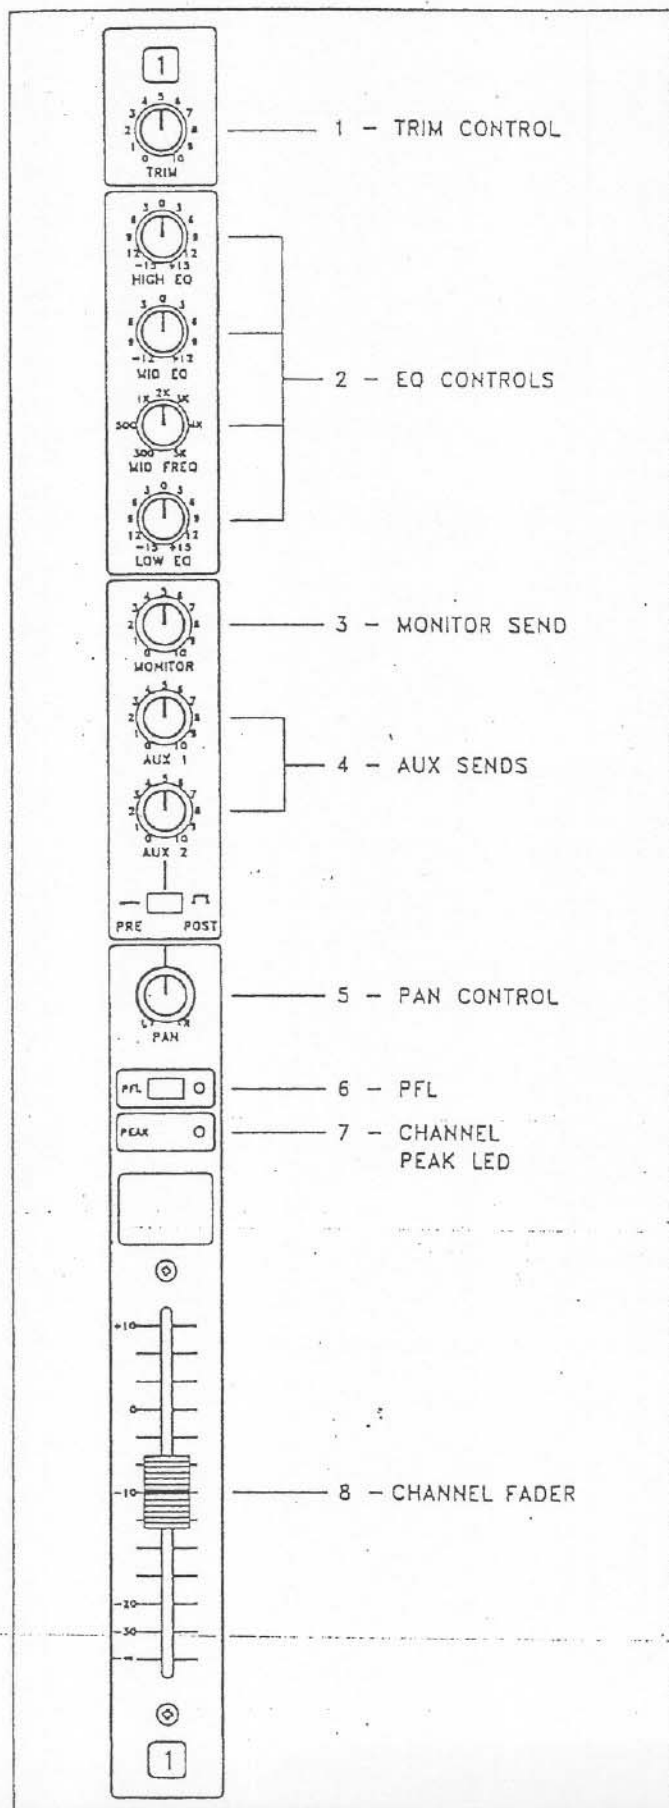
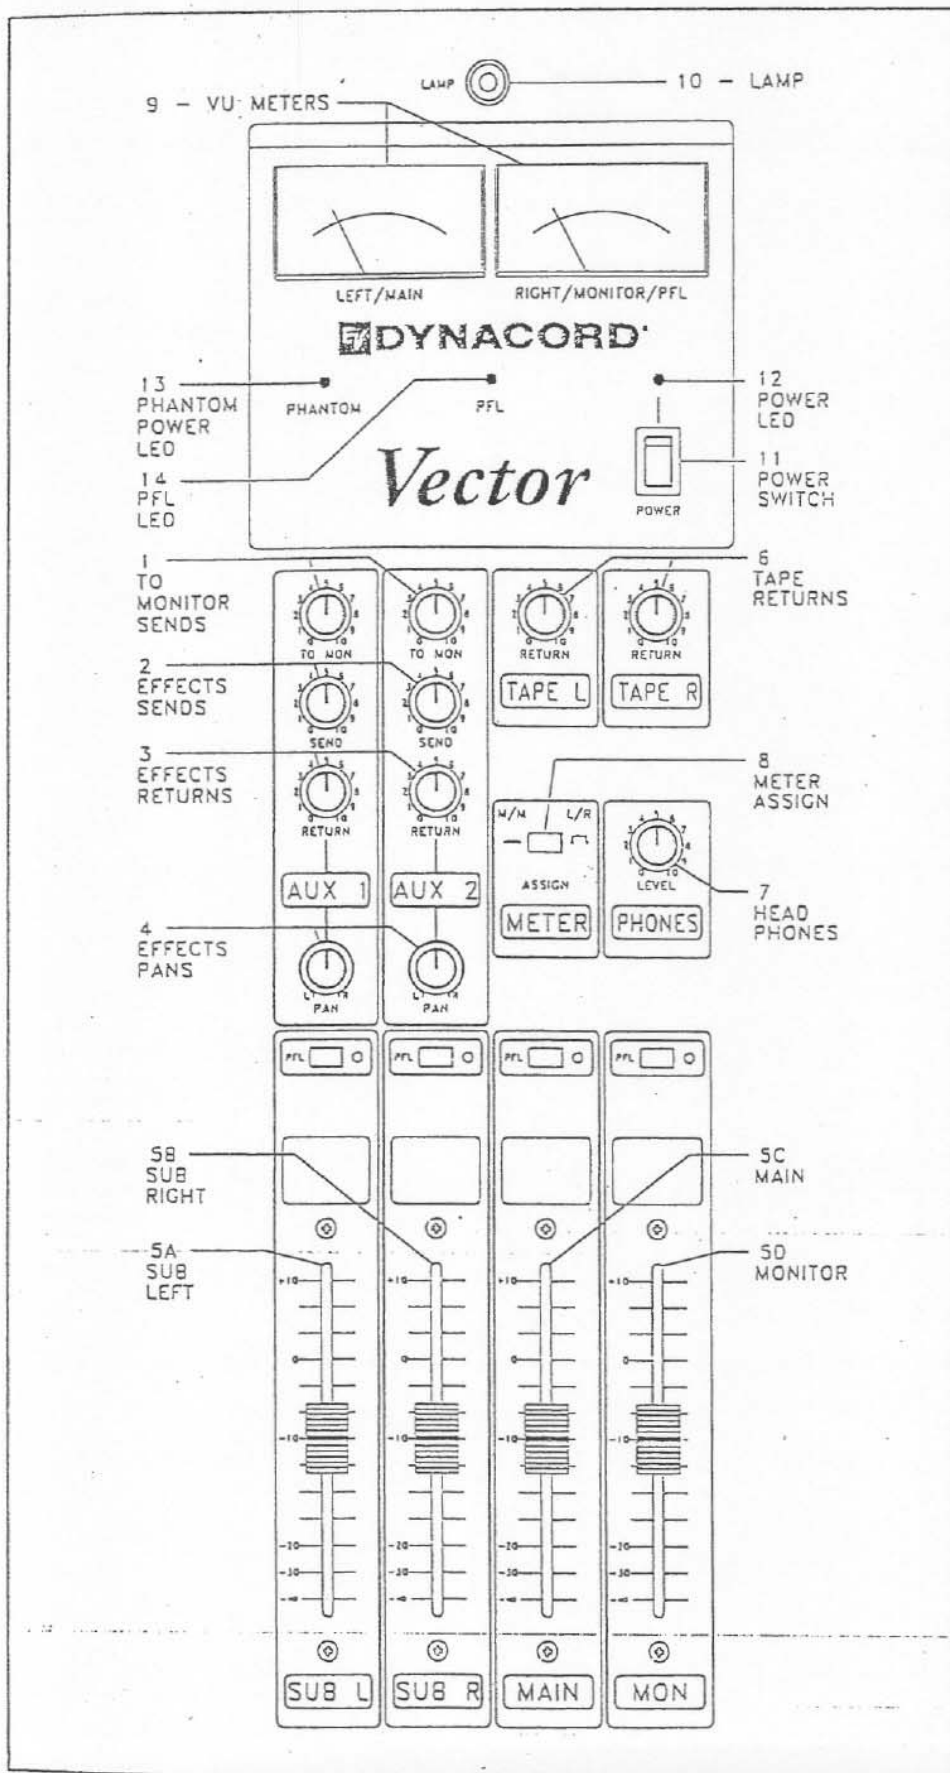

Figure 4: Input Channel Controls
Figure 5: Output Section Controls
(Refer to Figure 4)
input (¼-inch phone jack). The line input will accept signals from an instrument, high-impedance microphone, tape/CD player, keyboard or electronic drums or almost any other audio source. Always make sure that the channel fader (see Figure 4) and/or master faders (see Figure 5) are down before plugging or unplugging input sources.
3.2 Output Section Controls (Refer to Figure 5.)